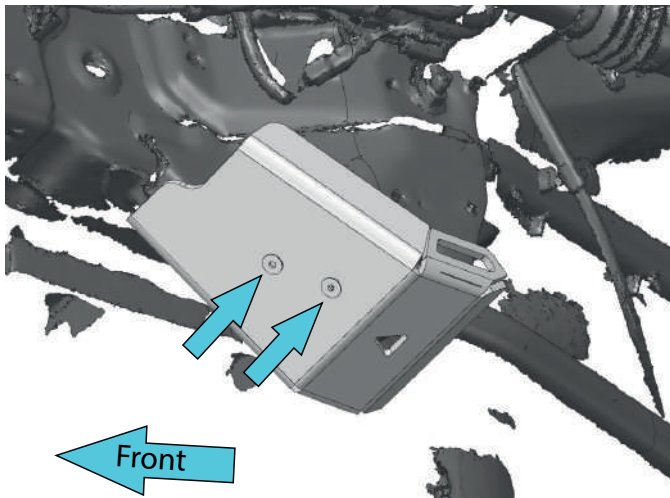

Fig. 1
1. Install the rear control arm skid plate (left) (item 1) to the factory mounting points using M6 x20 countersunk bolts (item D) (Fig.1).